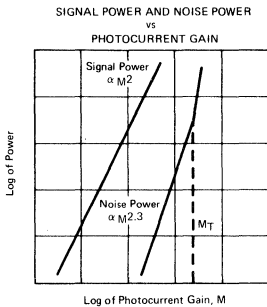

FIGURE 1
3. Gain M_T is measured at the reverse voltage at which the noise deviates from the theoretical linear characteristic. See Figure 1.